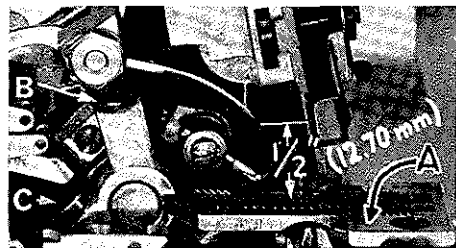

Fig. 3
With throat plate assembled in position, needle should center in the front end of needle slot. When needle is at high position, needle point should be set  $\frac{1}{2}$  inch (12.70 mm) above throat plate (A, Fig. 3) for Styles 39500 QA, QB, QP, QY, RF, RM, RS, SE, SG, TA and TD;  $\frac{15}{32}$  inch (11.91 mm) for Styles 39500 RA, RR, SF and TH. To align needle or set the height above the throat plate, move needle driving arm (B, Fig. 3) by loosening clamp screw (C). After needle has been set properly, tighten screw (C) and remove throat plate.